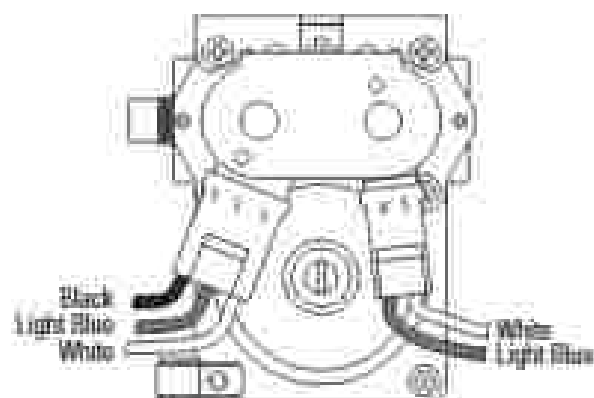

Figure 1 - Measuring gas valve resistance.
3. Use an ohmmeter to determine if a gas valve coil has malfunctioned. Remove harness plugs. Measure resistance across the terminals (see figure 1). Readings should match those shown in the following chart. If not, replace coils.